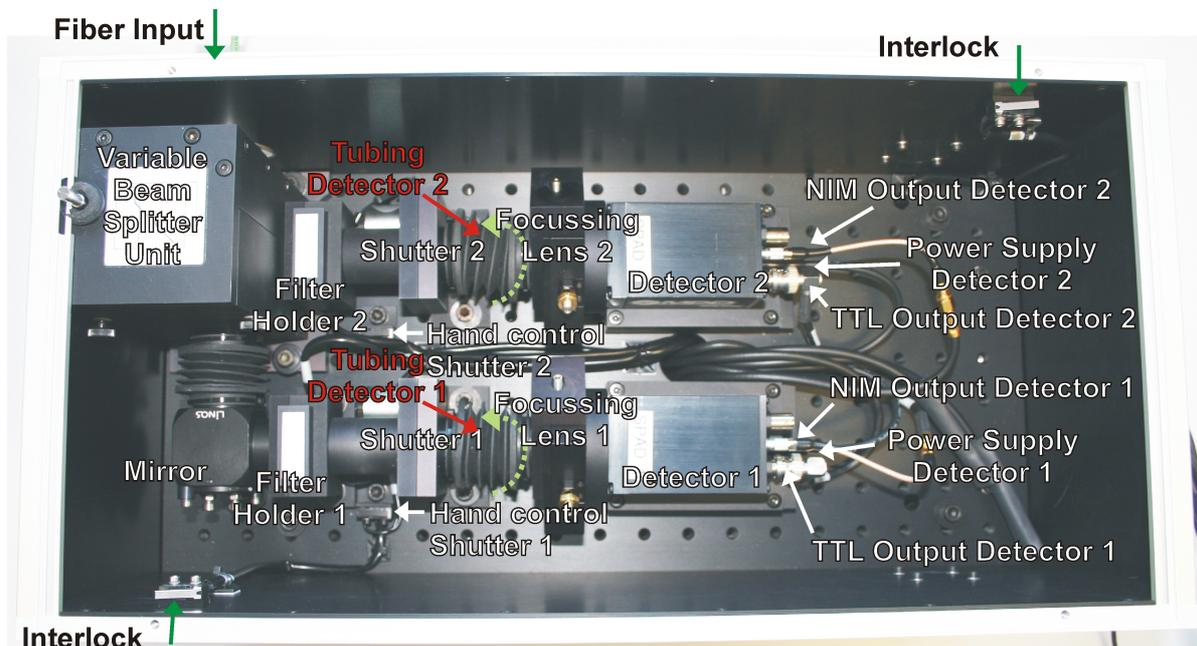
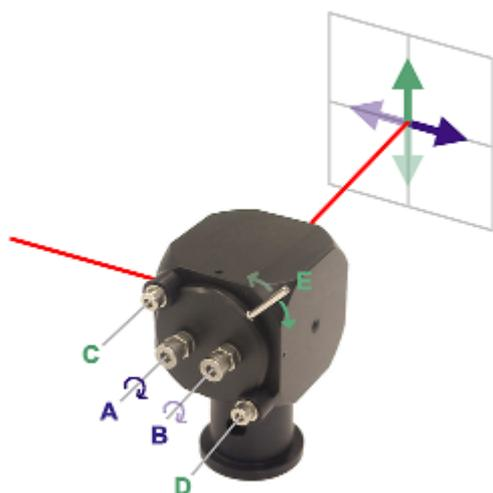

Fig. 5.7: Dual Channel SPAD detection unit with relevant parts for alignment
Fig. 5.10: Handling of the light-tight mirror holders
4. **Remove** the **tubing** between the focussing lens and the shutter of detector 2 (Fig. 5.7). The tubing is screwed into the focussing lens holder, the direction to unscrew the tubing is indicated by the green arrow. Also, remove any filter from the filter holder, put an empty filter holder in and put the variable beam splitter unit to position 1 (lowest, Fig. 4.2). In this position, all the light should be directed to detector 2. Make sure that in position 1 of the variable beam splitter unit a 100 % mirror is placed (compare Fig. 4.2).
5. Place the adjustment plate (Fig. 5.6) before the detector as shown in Fig. 5.8. In case of correct adjustment, the beam is placed at the center of the adjustment plate, when shutter 2 is opened by pressing the “Hand Control Shutter 2” (Fig. 5.7, Fig. 5.8). Otherwise the beam needs to be directed to the center of the adjustment plate by adjusting the screws at the fiber coupler (Fig. 5.9). Therefore, adjust the beam with the screws indicated in red in Fig. 5.9; if necessary, loose the counter screws indicated in yellow in Fig. 5.9. The counter screws must be tightened after alignment.
7. For adjustment of detector 1, the mirror at the left bottom of Fig. 5.7 is adjusted with the screws shown in Fig. 5.10. Adjust the screws to hit the center of the alignment cap with the laser beam. After alignment fasten the counter screws on the mirror mount.